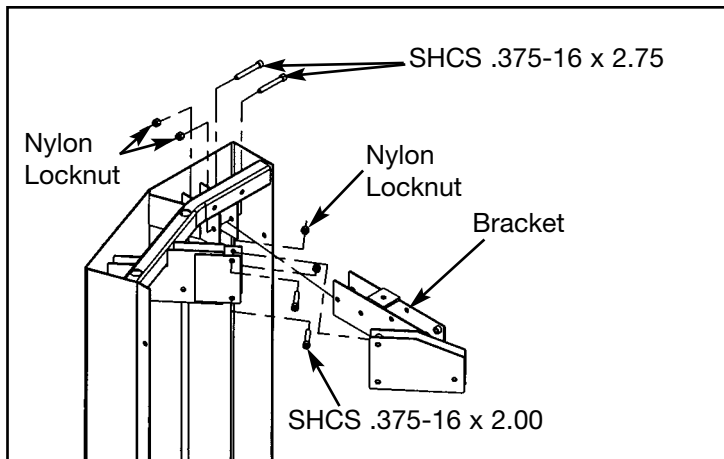

Figure 1
**1. Install Pressing Station weight stack** (see steps 1A - 1S, Figures 1 and 2).
**A.** Remove the four SHCS and nylon locknuts securing the pulley bracket. See Figure 1.